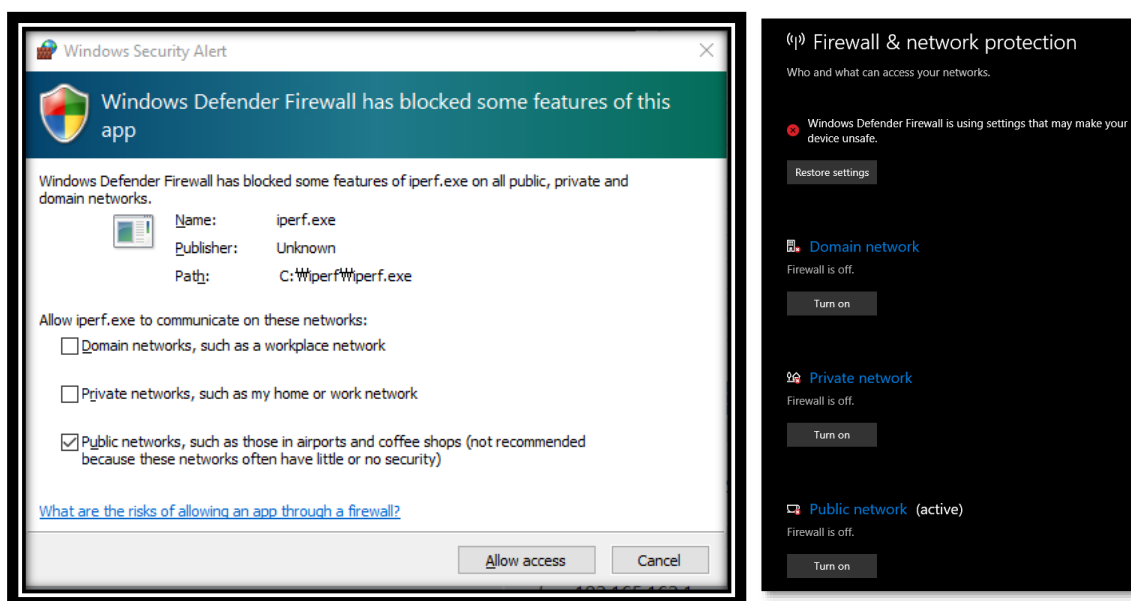

Figure 37: Disable Firewall for Iperf Test
- It is recommended to disable the laptop from all network firewalls before attempting a test (see Figure 37).